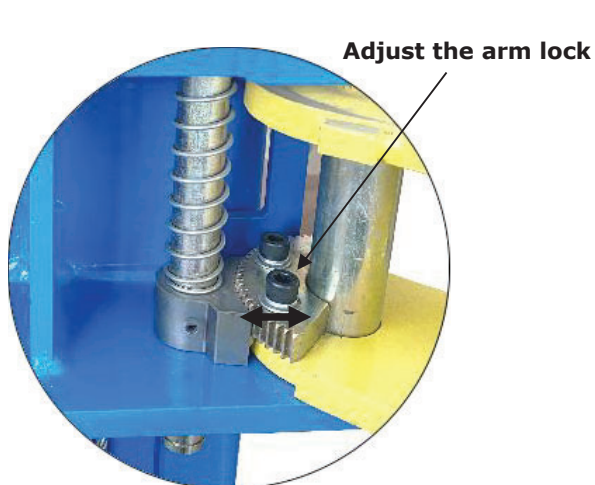

Fig. 39
3. Adjust the arm lock as direction of arrow (See Fig. 39)